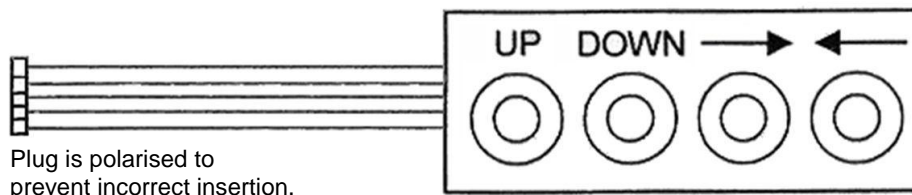
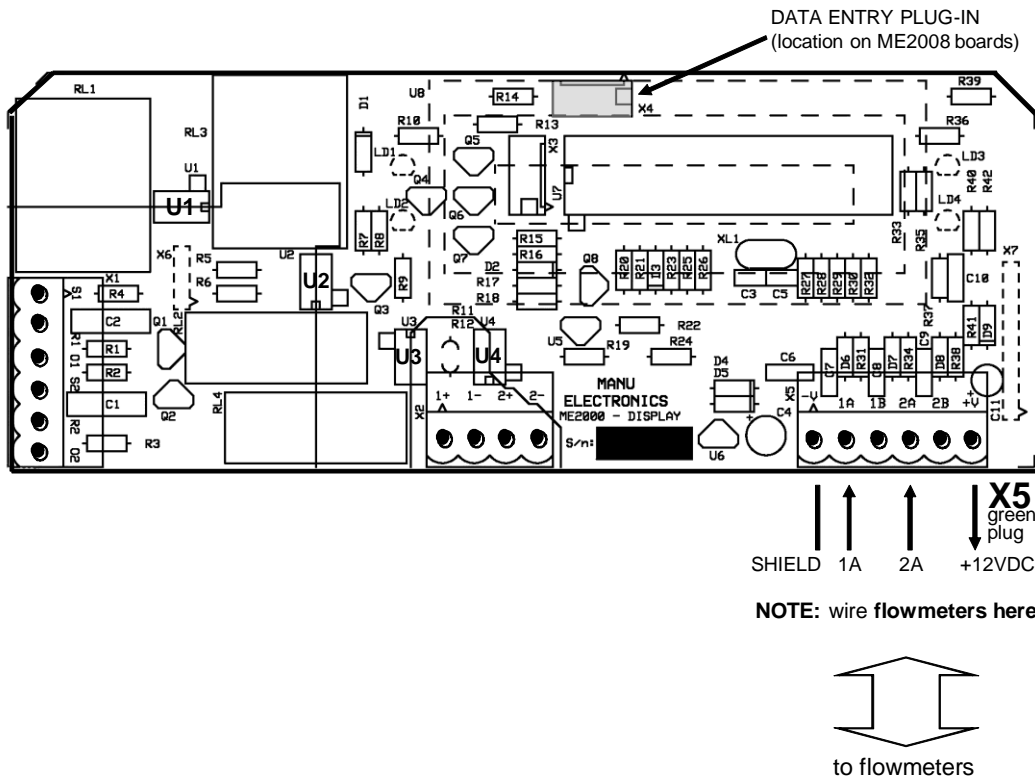

Figure 1. Programmer
Figure 2. Dual Channel Module (DCM)
- Figure 2. Dual Channel Module (DCM), on page 3.
1. Connect 240V supply (L is active load, N is neutral, E is earth) to the Motherboard (Figure 1, page 3) plug X10 (a 4-pin green-coloured plug). Keep all power off during process.
The entry of program parameter data is achieved with a 4-button keypad programmer (see Figure 1 below) that is plugged onto the 5-pin inline Data Entry Plug-In plug rail located on each Dual Channel Module (as shown in Figure 2 on page 3). The programmer plug is keyed so that it can only be plugged in the correct way.
Each Dual Channel Module (DCM) is programmed one at a time. Plug the Programmer into the DCM to be programmed (the programming plug location is shown in Figure 2 on page 3). To start programming, push either arrow button ( → ← ) **on the Programmer**. Cursor (digit) will flash on the DCM display. Push UP or DOWN to change numeric values. Push arrows to scroll through the individual numeric settings. Once programming is completed, push either arrow button ( → ← ) until no digits are blinking, data is now entered into memory.